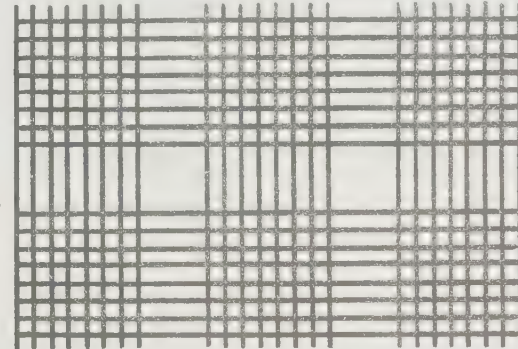

Fig. 36
4. SPACED DENT There are intervals where the thread is not sleyed through the reed but spaces are left. Weaving is done right across the width, threaded areas and spaces. Spaces may also be left in the weaving to give a more open effect. See Fig. 36.